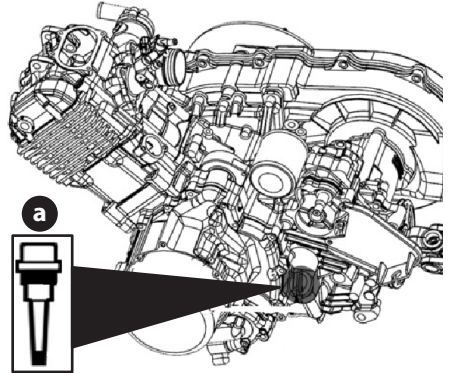

Figure 20
2. To check the oil level, remove the dipstick (a), wipe it clean, replace it without re-threading the dipstick, and pull it out again, check to see if the level is too low and add new oil to the full level on the dipstick (a) (Figure 20) for the location of dipstick.